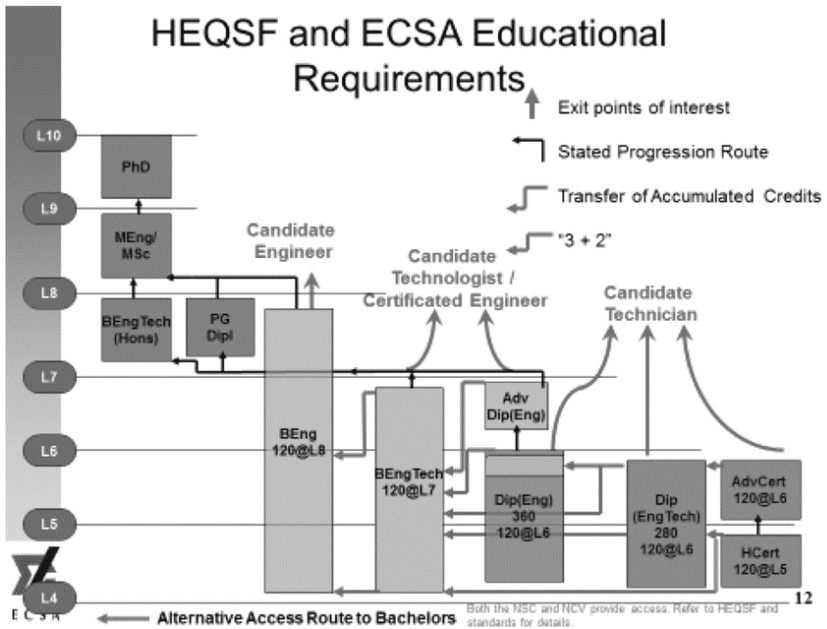
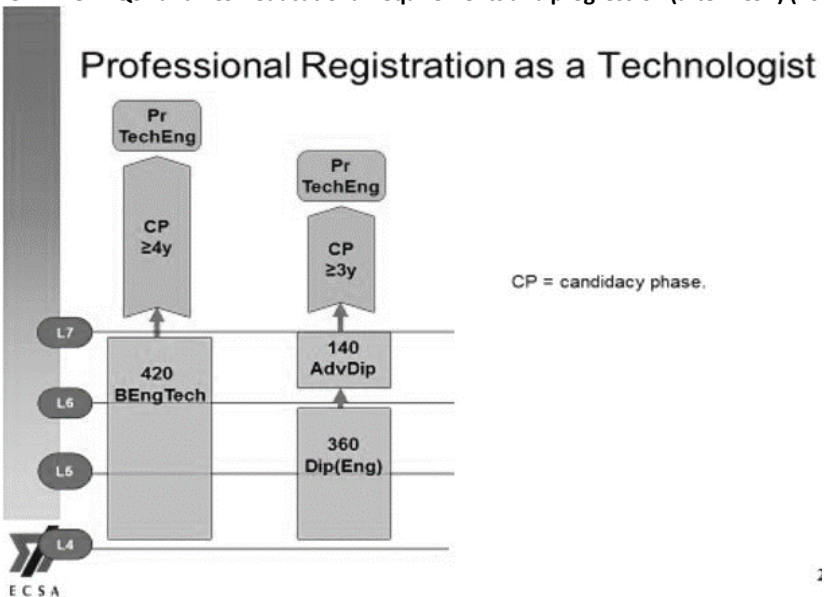
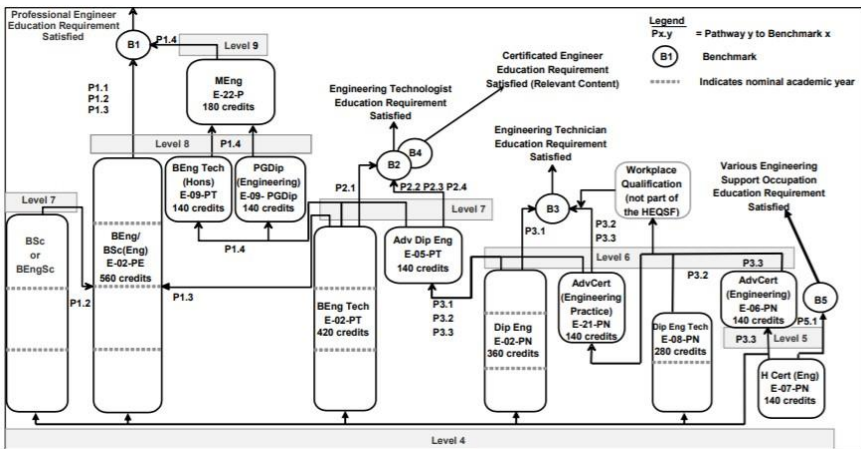

Figure 1: The HEQSF and ECSA educational requirements and progression (after ECSA) (2015)
Figure 2: Professional Technologist registration (after ECSA) (2015)
Figure 3: Graphical view of Engineering qualifications in HEQF (ECSA Doc Nr E-23-P)
ECSA pegs the accreditation of the current and upcoming Engineering Programmes on the HEQSF educational requirements, as shown in Figure 1. In terms of a graduate's need to register professionally, their education must also be aligned to the HEQSF requirements and ECSAs requirements. Figure 2 depicts a Professional Registration Pathway as a Technologist, the route that is to be followed by a graduate from this programme. Figure 3 illustrates the ECSA – HEQSF articulation route.
- As shown in Figures 1 & 2, completing this 360-credit Diploma meets the minimum entry requirement for admission to an Advanced Diploma designed to support articulation and satisfy an engineering technologist education benchmark. This Diploma provides the base for the graduate to enter training and experience toward independent practise as an engineering technician and registration as a Professional Engineering Technician.
- As shown in Figures 1 & 2, completion of this 140-credit Advanced Diploma is the minimum entry requirement for admission to a Bachelor Honours Degree or Postgraduate Diploma. Entry into these qualifications is usually in the area of specialisation or in the discipline taken as a major in the Advanced Diploma, after completion of the Diploma in Engineering or equivalent. In addition, the